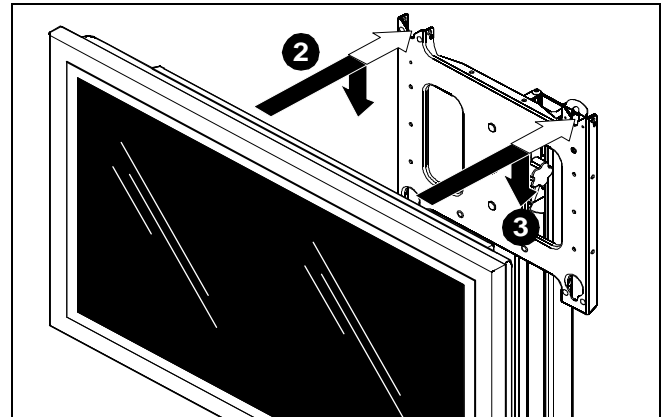

Figure 12
- While supporting both sides of display, align four mounting buttons on display or interface bracket with four mounting holes in head assembly. (See Figures 12 and 13)
- Lower display into place listening for audible "click" to ensure recessed area of mounting buttons are properly seated in lower area of mounting holes. (See Figures 12 and 13)